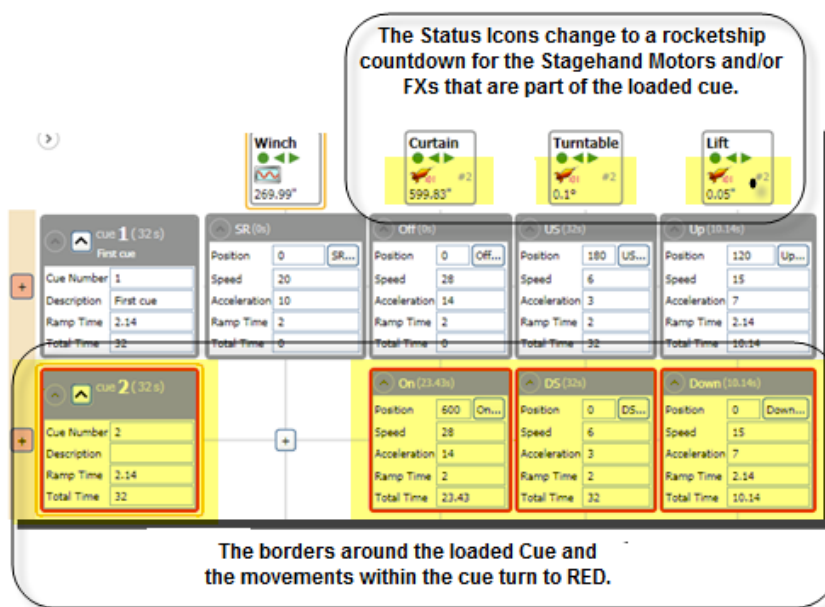

Figure 246
1. In the **Cue Grid**, the borders around the ready cue and ready movements change to red and the Stagehand column headers display a rocket ship countdown icon (Figure 246). *For a complete list of status icons and their meanings, see the “Motor Status” section on page 43 and the “FX Status” section on page 70.*